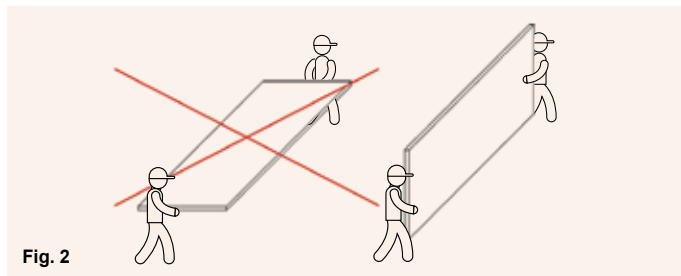

Fig. 2
**VMG Lignum Board | Wall** should be carried by hand in a vertical position, not horizontal, in order to avoid breaking (Fig. 2).